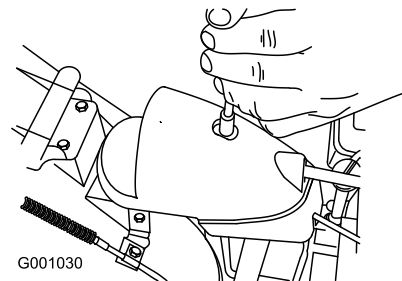

Figure 48
1. Remove the fastener on the gear cover (Figure 48), lift the front of the cover up, and slide it back and out of the way.